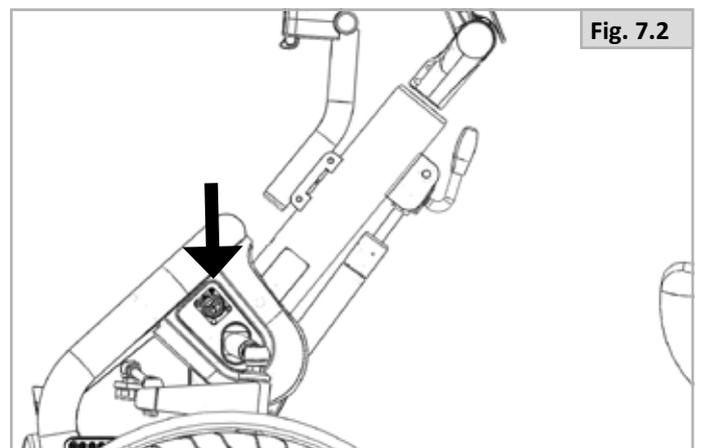

Fig. 7.2
7.2.1 Charging Socket (Fig. 7.2)